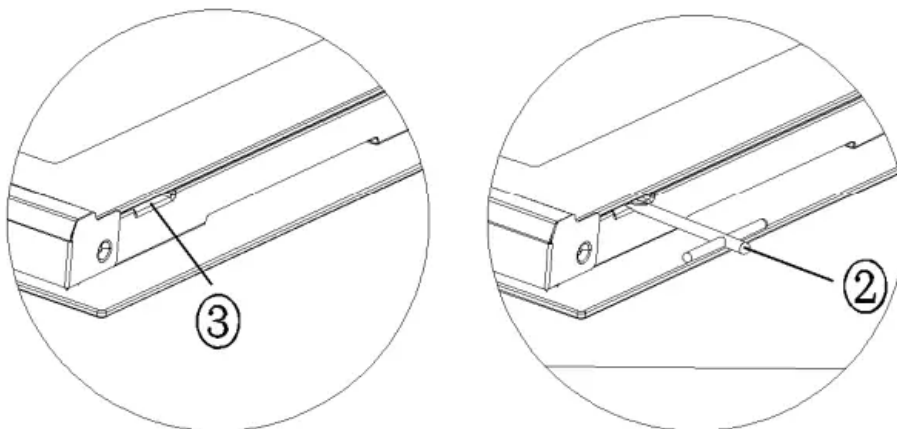

Figure 2
- ① : Inside glass
- ② : Pointed tool (To insert into disassembly groove)
- ③ : disassembly groove
1. To insert ② pointed tool into the disassembly groove, as shown in figure 2